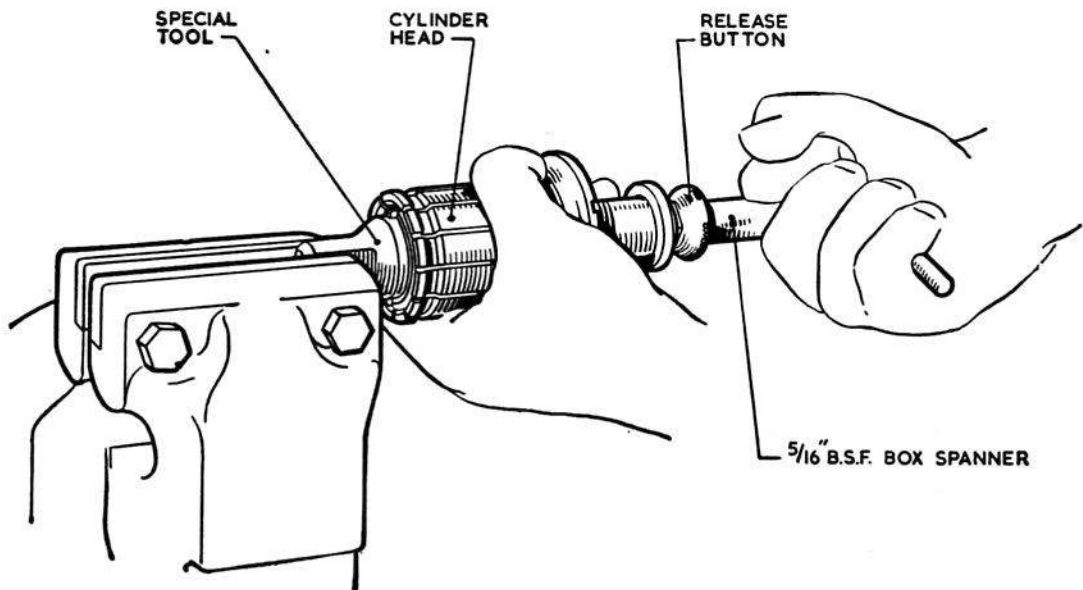

Fig. 8. Dismantling release piston
- (2) Remove the lock-nut in the release button with a  $\frac{3}{8}$  in. B.S.F. box-spanner, at the same time restraining the release piston from turning by engaging the special tool in the slots provided (fig. 8).
- (3) Pull off the release button; the release piston and spring can then be withdrawn from the cylinder head.